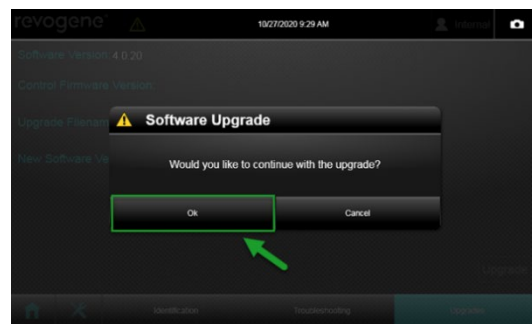

Figure 6. Upgrade Confirmation
9. A window will appear. Tap <OK>. (Figure 6)